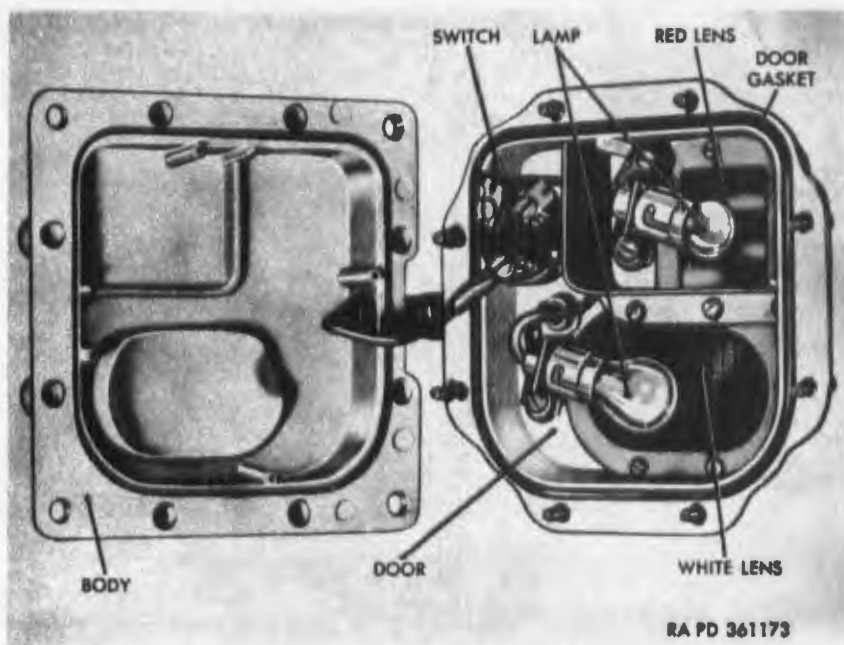

Figure 156. Dome light—partially disassembled.
- (1) *Removal* (fig. 156). Unscrew six roundhead screws with retaining rings which secure the dome light door on the light body and swing door with lamps and switch, away from light body. Press in on lamp to be replaced and turn counterclockwise to release. Remove lamp.
- (2) *Installation.* Install a 24–28 volt, 6-candlepower, bayonet base lamp in the socket from which the lamp was removed by pressing in on lamp and turning clockwise to secure. Perform test ((3) below) and then install light door (fig. 156) with lamps and switch attached on light body and secure with six No. 10 x 1 roundhead screws with retaining rings.
Note. Make sure that dome light door gasket (fig. 156) is properly seated before securing door on body.